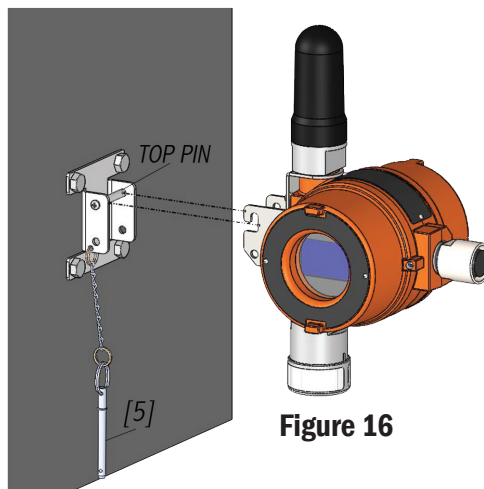

Figure 16
3. Mount device by hooking onto top pin of mounting bracket plate (see Figure 16).